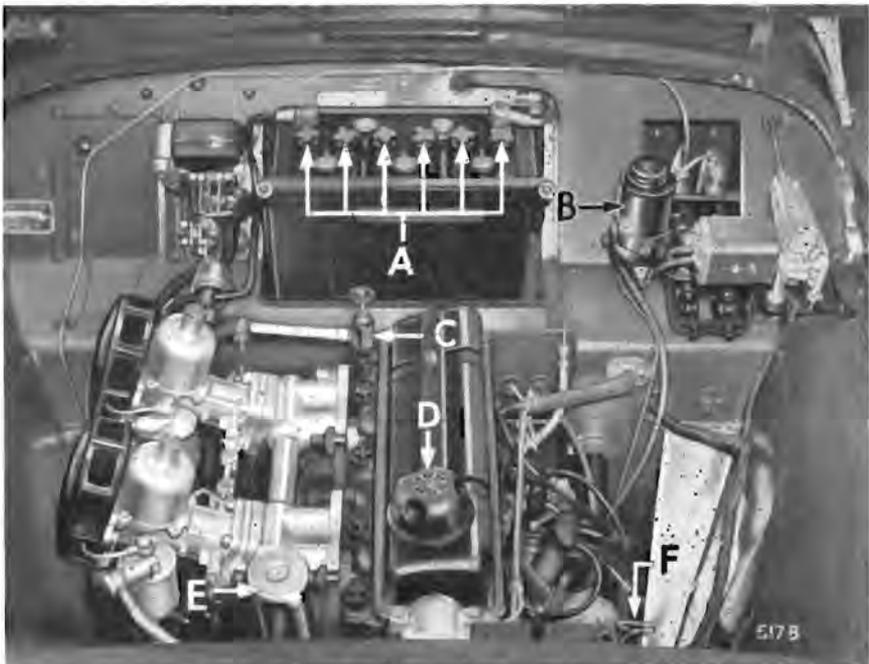

Fig. 3. View under bonnet.
**Every 250 miles** check the oil level when the engine is cold, and top up if necessary. Withdraw dipstick (F) (Fig. 3) and wipe clean, then insert and push fully home before withdrawing for reading. The lower mark on the dipstick indicates that 4 pints of oil will be required for topping up. The regular addition of oil not only maintains the correct level, but also tends to keep up the quality of the lubricant. Replenishment is via the cap (D) which must be lifted straight off.
Taps are provided in the bottom tank of the radiator and at the rear of the cylinder block on the right-hand side. As the cooling system is pressurised it will be necessary, when draining, to remove the radiator cap (E) (Fig. 3.)